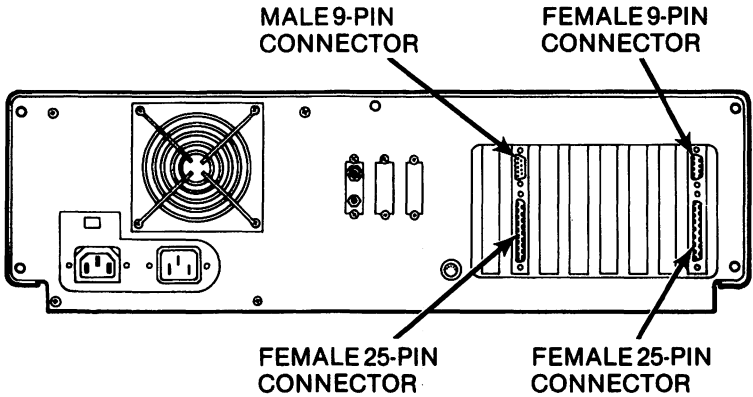

Figure 2-1
4. Familiarize yourself with which connectors are in which slots on the rear panel. As shown in Figure 2-1, some boards have similar connectors.
For example, the monochrome or monographics adapter boards (on the right in Figure 2-1) and the I/O board (on the left) are similar but identifiably different. While both of these boards have parallel printer ports with identical female, 25-pin connectors, the monographics board has a video port with a female, 9-pin connector and the I/O board has a serial port with a male, 9-pin connector.